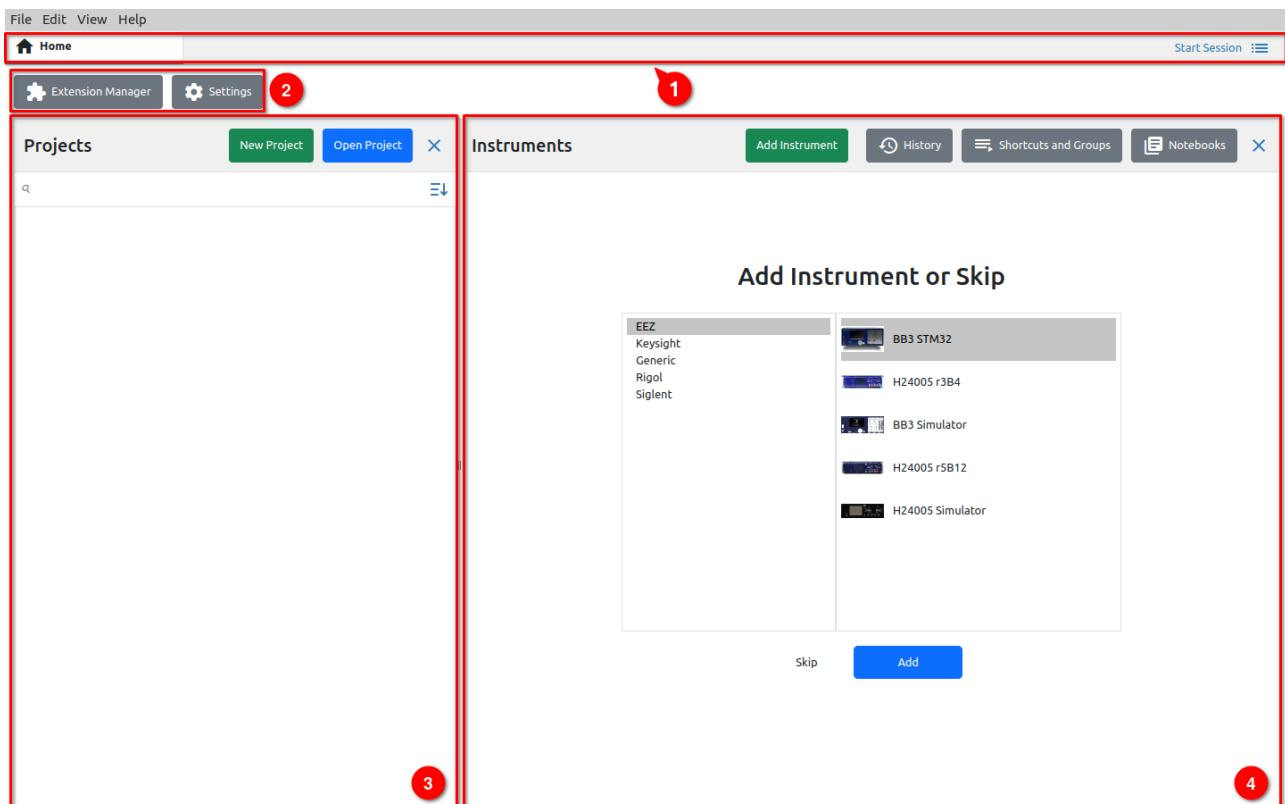

Fig. 3: Home page
After starting EEZ Studio, the home page is displayed, which is actually the *Home* tab that is always present (it cannot be hidden). *Main tabs* section (1) allows easy navigation between multiple open projects, instruments as well as *Extension Manager* and *Settings* sections (Fig. 3).